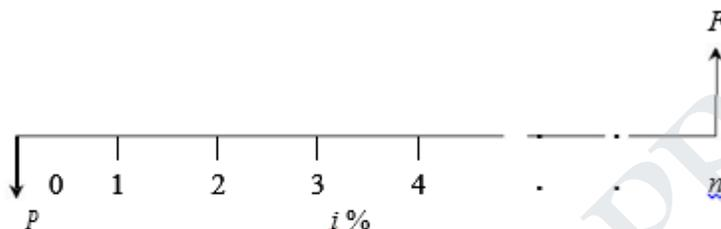

Fig. 3.2 Cash flow diagram of single-payment compound amount.
Here, the objective is to find the single future sum (F) of the initial payment (P) made at time 0 after n periods at an interest rate i compounded every period. The cash flow diagram of this situation is shown in Fig. 3.2.